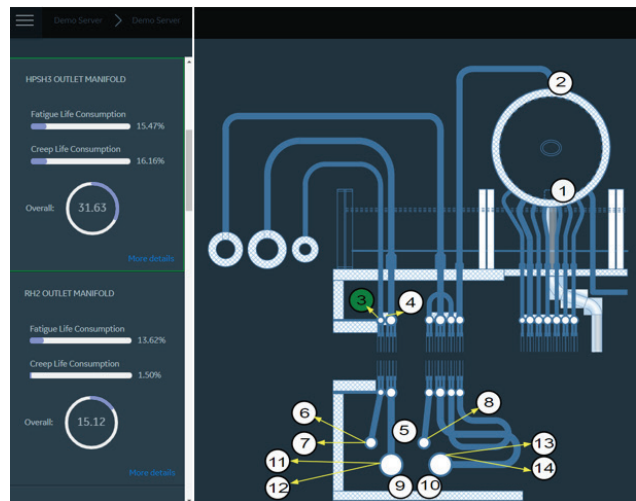

Figure 2: Software user interface
The HRSG Life Monitor (LM) is a hardware + software online solution that provides you with a way to quantify lifetime consumption so you can make informed decisions relating to your critical components' overall life expectancy. The user-friendly software interface can be accessed via login from any system on the plants network [Fig. 2].